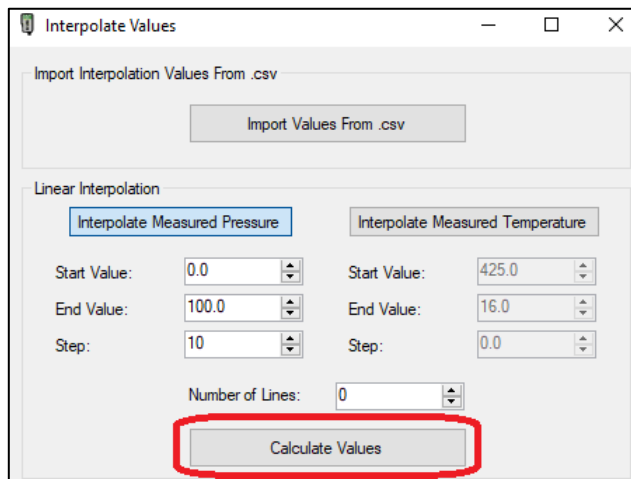

FIGURE 6-36 HHT TEST PATTERN GENERATOR SOFTWARE –MP INTERPOLATION (STEP)
STEP 2	Click on the “Calculate Values” button, to generate the set of IRDI messages – see Figure 6-36.